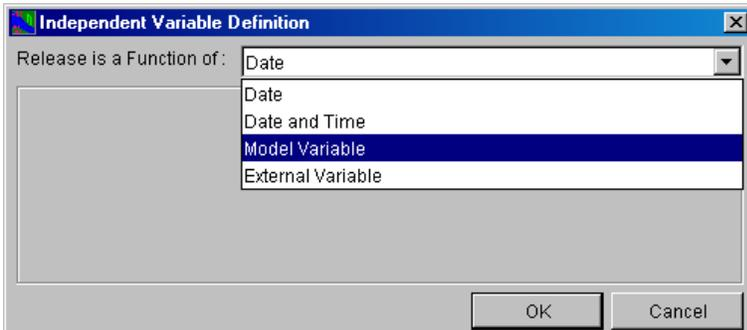

Figure 11.12 Reservoir Editor--Operations Tab: Release Function Rule, Selecting a Function from the Independent Variable Definition Editor
- Click the “Function of:” **Define** button. The **Independent Variable Definition** editor will open (Figure 11.12).